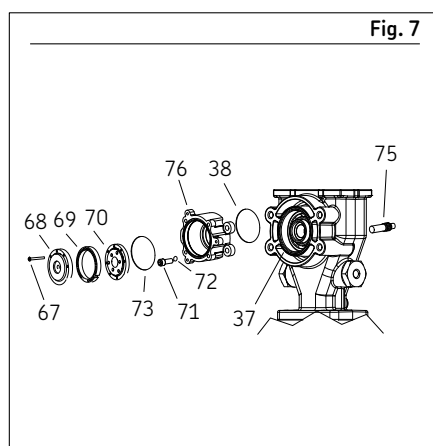
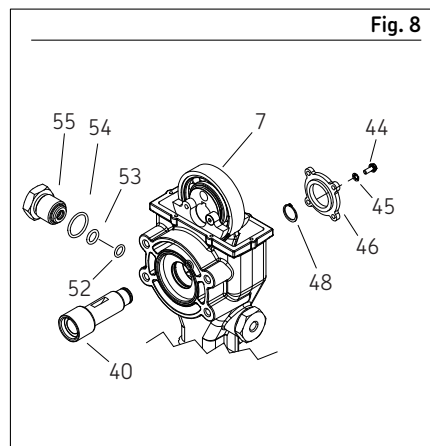

Fig. 7
Fig. 8
- 10 Refer to Fig. 7 and remove gear box mounting screws (71), washers (72) and gear box (76).
- 11 Loosen and remove screws (67) holding first stage gear set (68), spacer (69) and final stage gear set (70) in place.
- 12 Remove first stage gear set (68), spacer (69) and final stage gear set (70) from gear box.
- 13 Remove shaft adapter (75).
- 14 Remove gear box o-ring (38).
- 15 Loosen screws (44) holding shaft cover (46) on pump housing (37) (→ Fig. 8).
- 16 Remove retaining ring (48) from pump shaft (40).
- 17 Remove pump shaft (40) by pushing pump shaft on retaining ring (48) side.